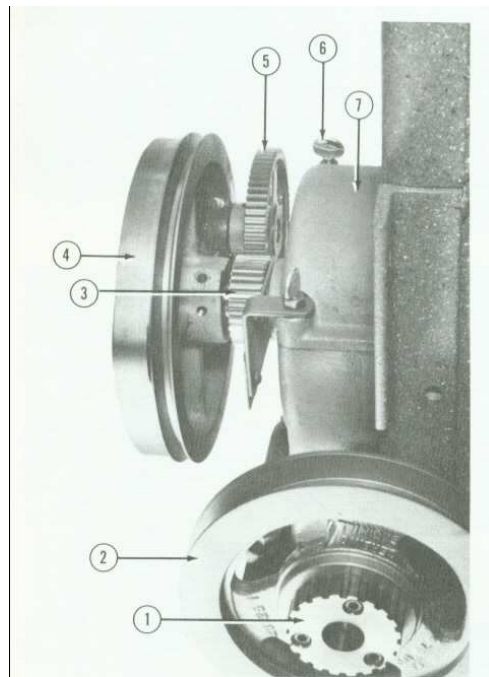

Fig 2
2. Loosen set screws in crank plate (Fig.2, ref.4) and disengage gears (Fig.2, ref.3 & 5).
4. Re-mesh gears (Fig.2) and tighten crank plate setscrews and check for stagger.